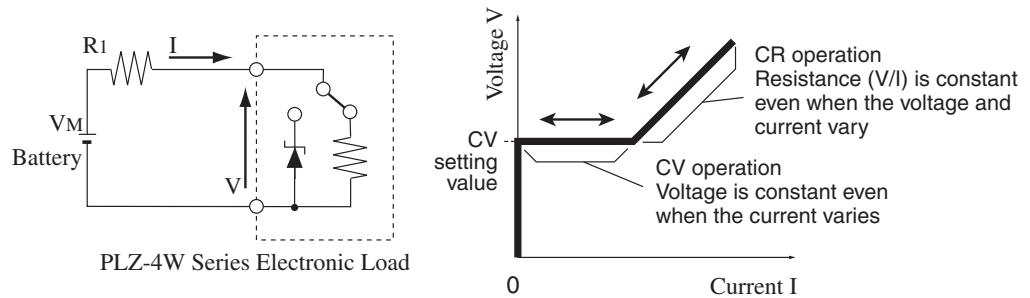

Fig. A-14 Equivalent circuit of the CR+CV mode and operation
When the PLZ-4W is used in CR+CV mode, the PLZ-4W operates as a constant resistance load and a constant voltage load (shunt regulator) as shown in Fig. A-14. When operating as a constant resistance load and the voltage (V_M) of the constant-voltage power supply is varied, the PLZ-4W sinks current to meet $I=V/R$ according to the specified resistance R . When operating as a constant voltage load and V_M is greater than V , the input voltage V is kept constant even when the input current I varies. Current does not flow when V_M is less than or equal to V .
The switching between the modes is automatic. In the Fig. A-14, R_1 is the internal resistance of the constant-voltage power supply. In constant-voltage (CV) mode, the PLZ-4W may operate unstably if R_1 is low.
We will consider the case when checking the discharge characteristics of a battery in Fig. A-14.